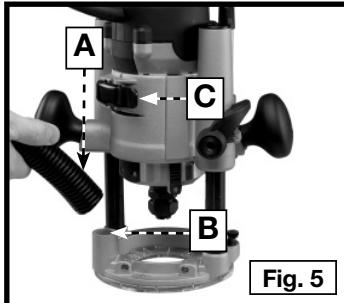

Fig. 5
You can attach a standard 1" vacuum hose (A) Fig. 5 to the dust port (B) Fig. 5 to connect the tool to a vacuum cleaner or dust collection system.
1. Pull the lever (C) Fig. 5 toward you.